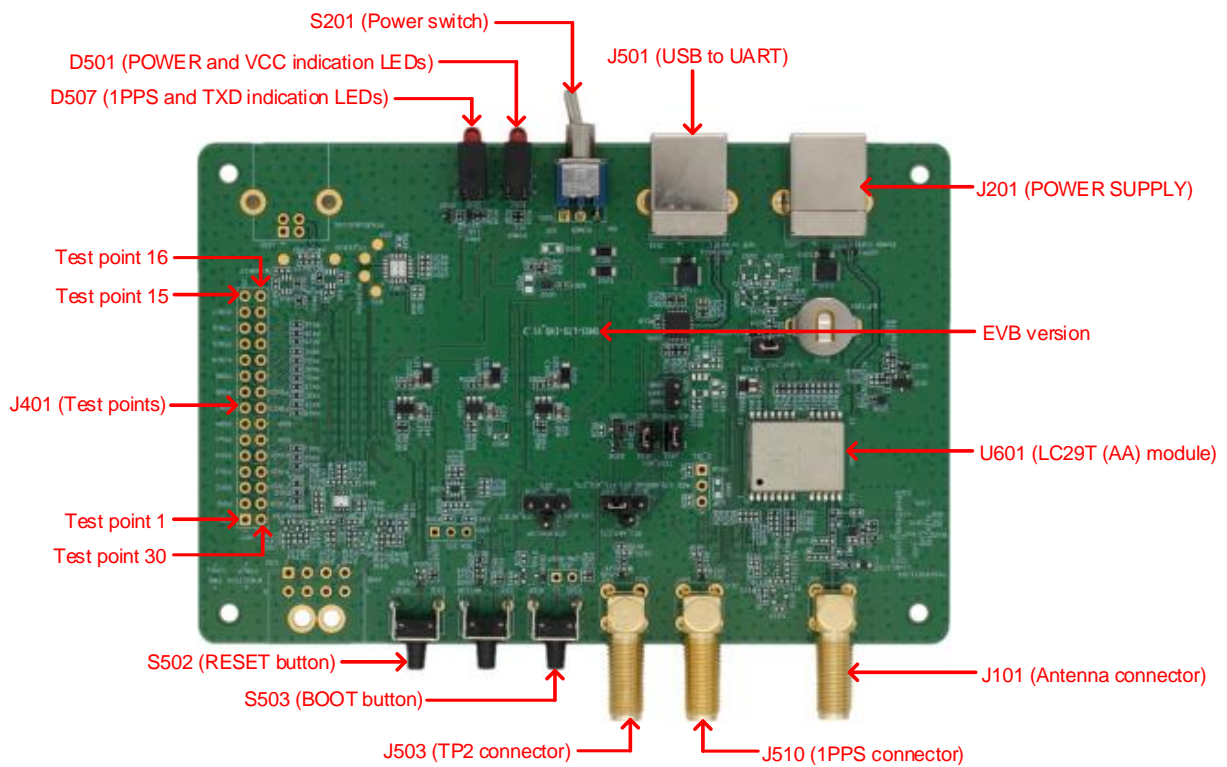

Figure 3: EVB Top View
1. Test points of J401 are arranged clockwise, and their serial numbers are shown in Figure 3: EVB Top View.